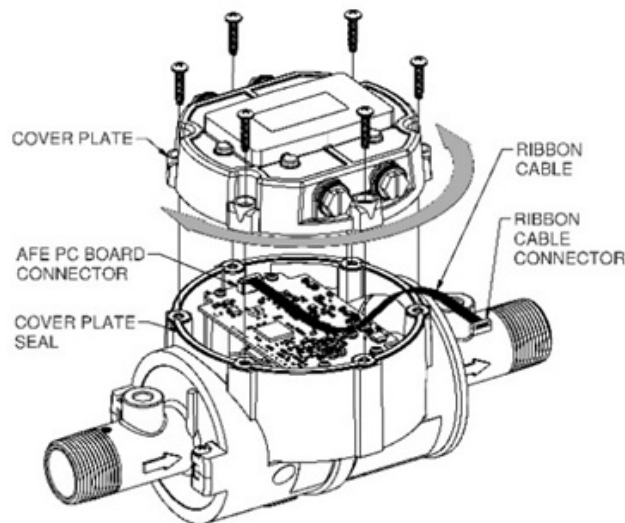

Figure 1
- Connect the QSI module PC board connector to the AFE module PC board connector inside the meter housing with the ribbon cable. The ribbon cable connectors are polarized and cannot be incorrectly connected (see Figure 1).
- Install the (6) cover plate screws and tighten them. Make sure the cover plate seal is fully seated before tightening the screws.